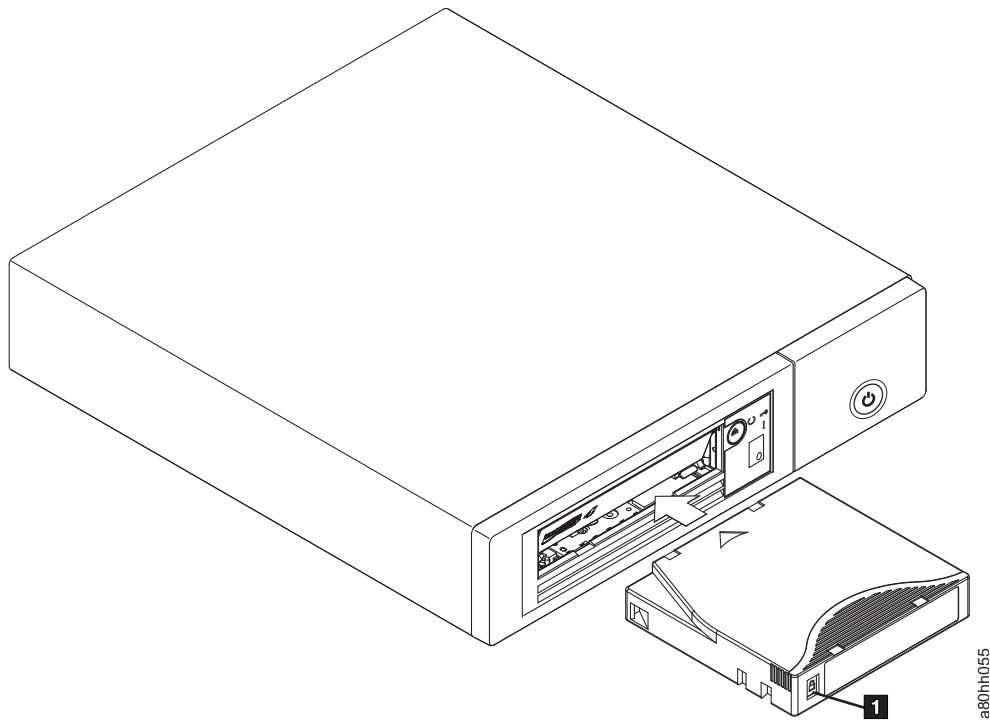

Figure 7. Inserting a cartridge into the drive
3. Grasp the cartridge so that the write-protect switch faces you (see **1** in Figure 7 on page 18).